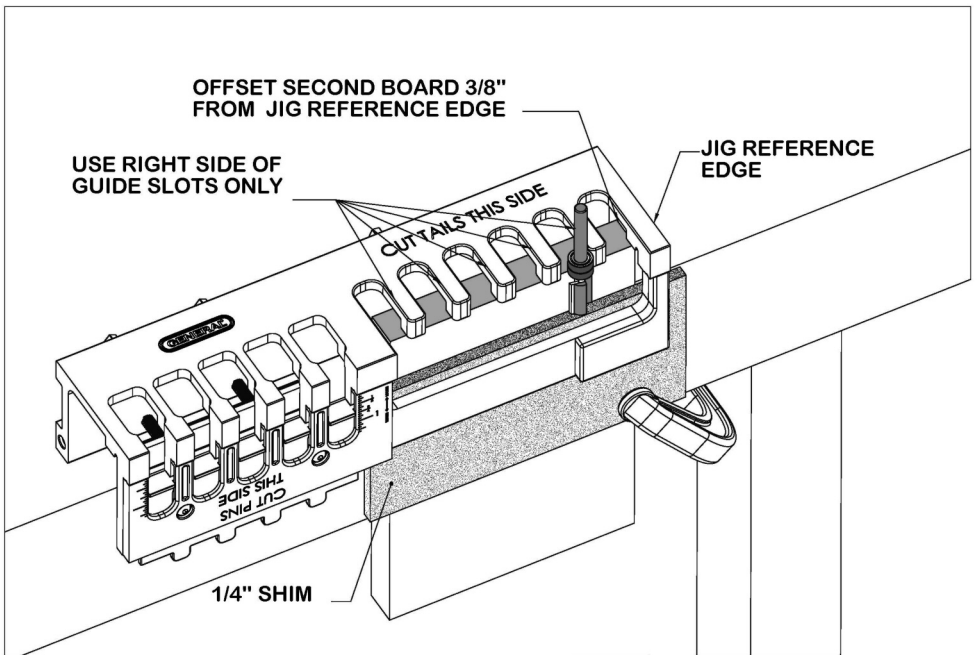

FIG. 21
- For the joining board, clamp it in the jig with its edge offset $3/8$ in. in from the right hand edge of the jig. Make entry and exit cuts using the right side of the guide slot only (FIG. 21).